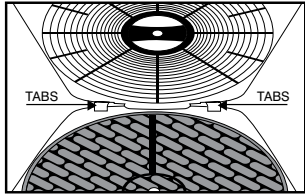

Fig. 19
- Place the tabs at the bottom of the grill plate into the base of the unit. See Fig. 19